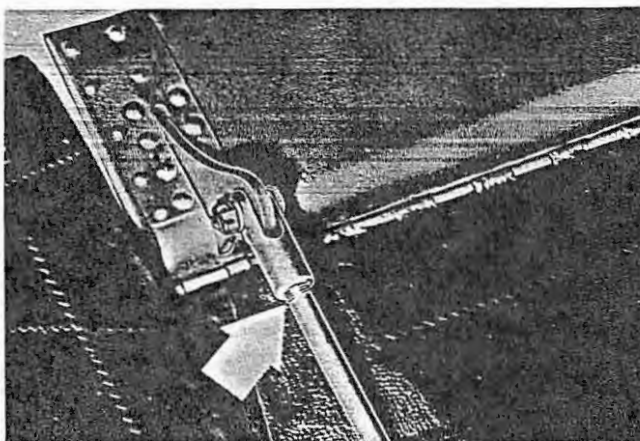

Figure 2-45. Elevator Tab Travel Adjustment
c. Check tab travel and adjust to 20 ± 2 degrees up, 14 ± 2 degrees down (figure 2-45).